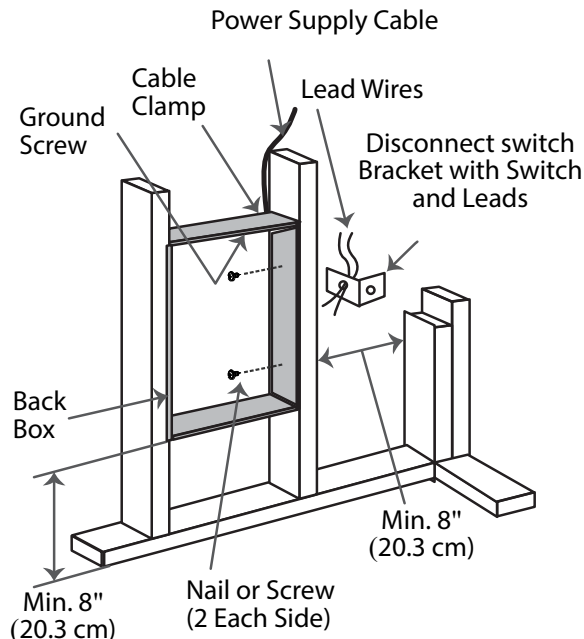

FIGURE 1: Locating Recessed Back Box in New Construction
3. Secure the back box in position with wood screws or nails as shown in Figure 1.